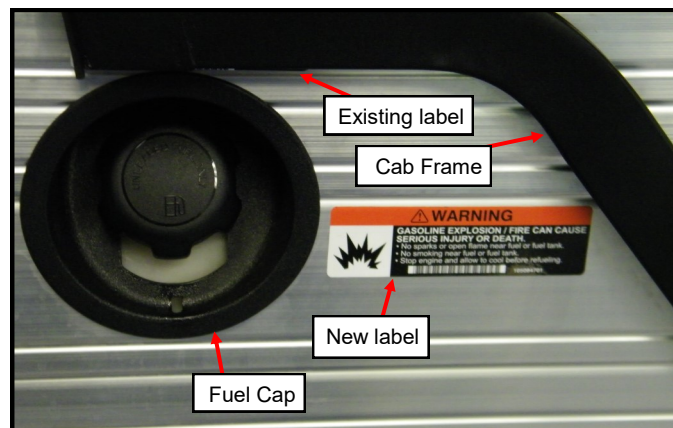

Figure 8.2: Gas/Fire Warning Label
- 8.2 **Gasoline Vehicles only:** Apply the Gas/Fire Warning Label forward of the Fuel Cap as shown (**Figure 8.2**).